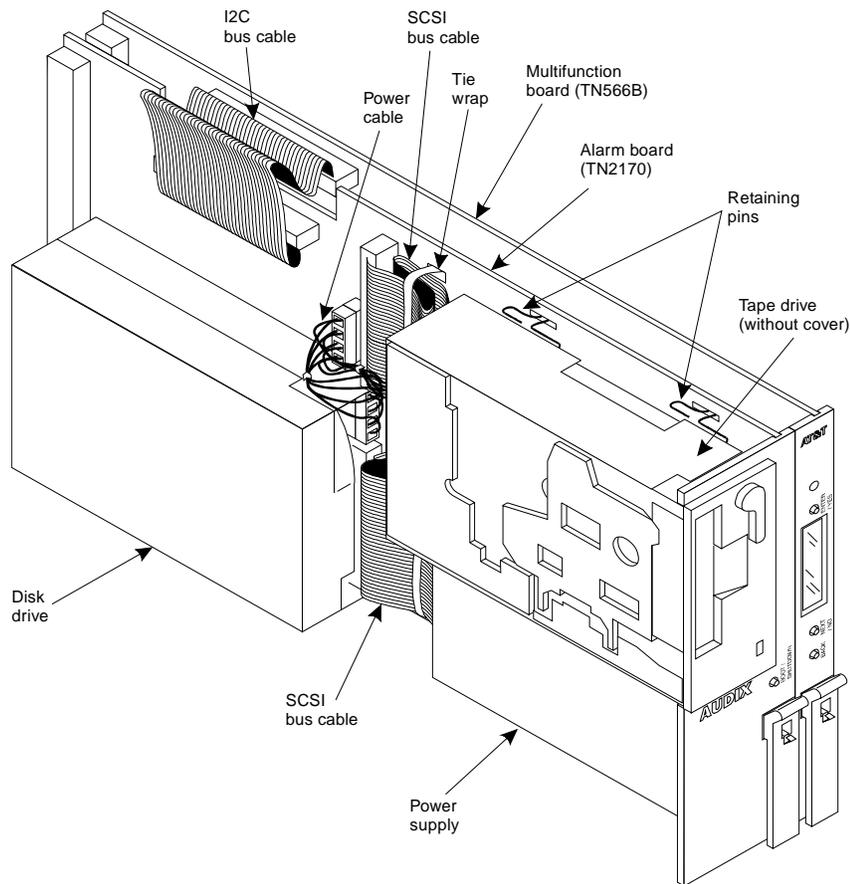

Figure 1-1. System Hardware
The DEFINITY AUDIX system, shown in Figure 1-1, *System Hardware*, is one of AT&T's message-handling systems that allows the recording and exchanging of messages over the phone and a personal computer (PC) when direct communication is inconvenient or unnecessary. This chapter gives a physical and functional description of that system.